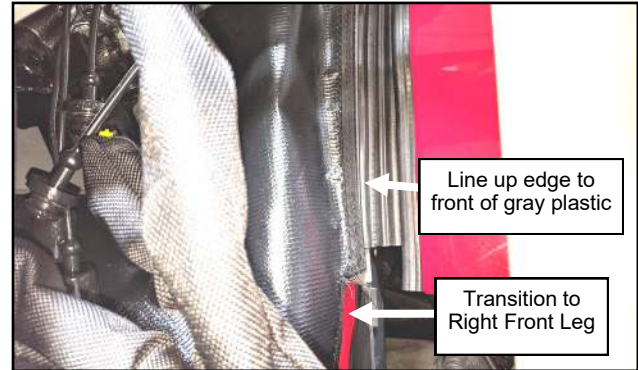

Fig. 1.7 (Transition Filler To Outside)
- 1.7 Line up the inner edge of the filler to the front of the gray plastic vehicle cowl and secure. See Figure 1.7. Transition the filler to the right Front Leg.